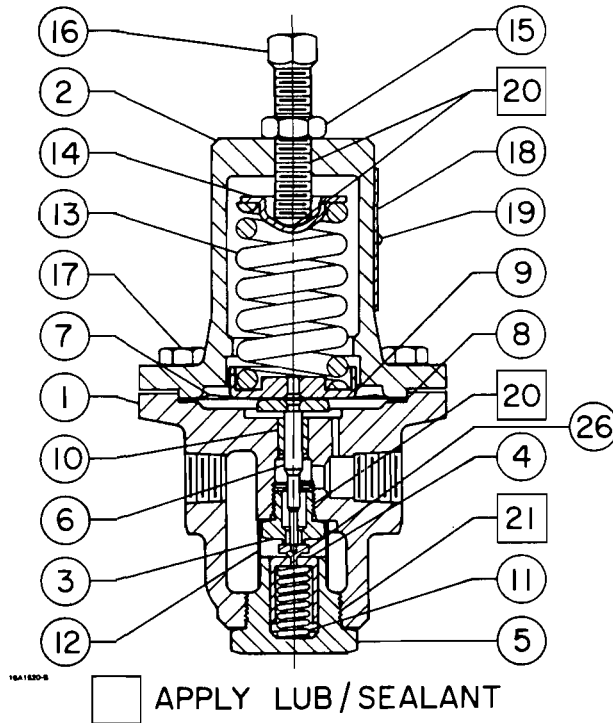
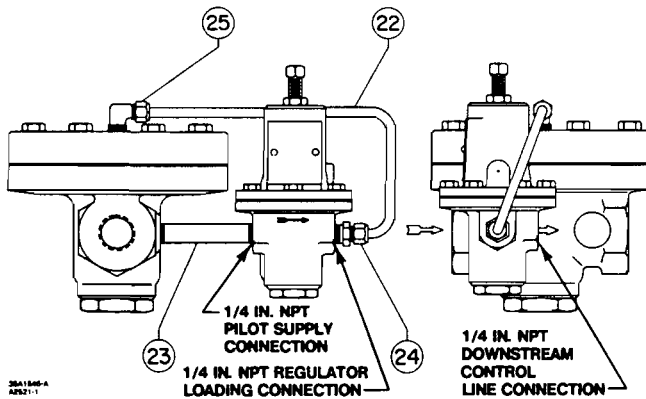

Figure 9. Type 6392 Pilot
Figure 10. Type 6392 Pilot Mounting Parts
a. For a pilot-operated regulator, loosen the jam nut (key 15, figure 9). Turn the adjusting screw (key 16, figure 9) into the spring case to increase the downstream pressure. Turn the adjusting screw out of the spring case to decrease the downstream pressure. When the required downstream pressure is maintained for several minutes, tighten the jam nut to lock the adjusting screw in position.
The regulator may remain in the pipeline during maintenance procedures unless the valve body is to be replaced or removed for repairs. For pilot-operated regulators, the pilot may remain on the pipe nipple (key 23, figure 10) unless the pilot body (key 1, figure 9) is to be removed or the entire pilot replaced as a unit.
1. For the pilot-operated regulator, unscrew the elbow and connector (keys 25 and 24, figure 10) so that the loading tubing (key 22, figure 10) can be removed.
5. For the pilot-operated regulator, reconnect the elbow, the loading tubing, and the connector (keys 25, 22, and 24, figure 10).
Perform this procedure if inspecting, cleaning, or replacing any pilot parts. Key numbers refer to figure 9 unless otherwise specified.
All pilot maintenance may be performed with the pilot body (key 1) attached to the pipe nipple and connector (keys 23 and 24, figure 10) unless the pilot body must be removed or the pilot is to be replaced as a unit.
1. Loosen the jam nut (key 15), and turn the adjusting screw (key 16) counterclockwise until all compression is removed from the control spring (key 13). Remove the loading tubing from the pilot outlet connection. Remove the cap screws (key 17), spring case (key 2), control spring, and upper spring seat (key 14) from the body.
2. Remove the lower spring seat (key 9), the diaphragm (key 7), and the diaphragm gasket (key 8) from the body. Lift out the stem assembly (key 6) consisting of the stem
and the pusher plate. Clean the 1/16-inch (1.6 mm) diameter pilot bleed hole. Clean and replace parts as necessary, and assemble the stem assembly, the gasket, the diaphragm, and the spring seat in the order shown in figure 9.